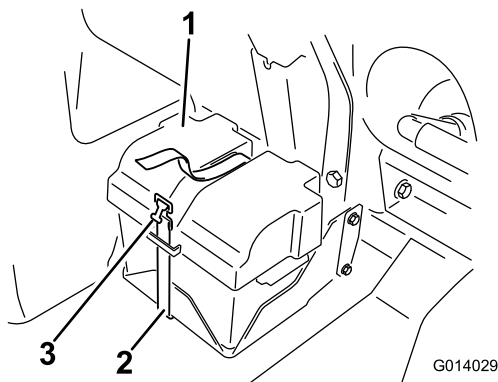
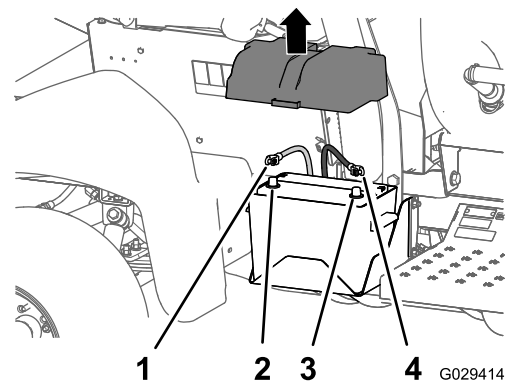

Figure 1
Figure 2
- Remove the battery cover and disconnect the negative (black—ground) cable from the battery post (Figure 1 and Figure 2).
- Disconnect the positive (red) cable from the battery post (Figure 2).